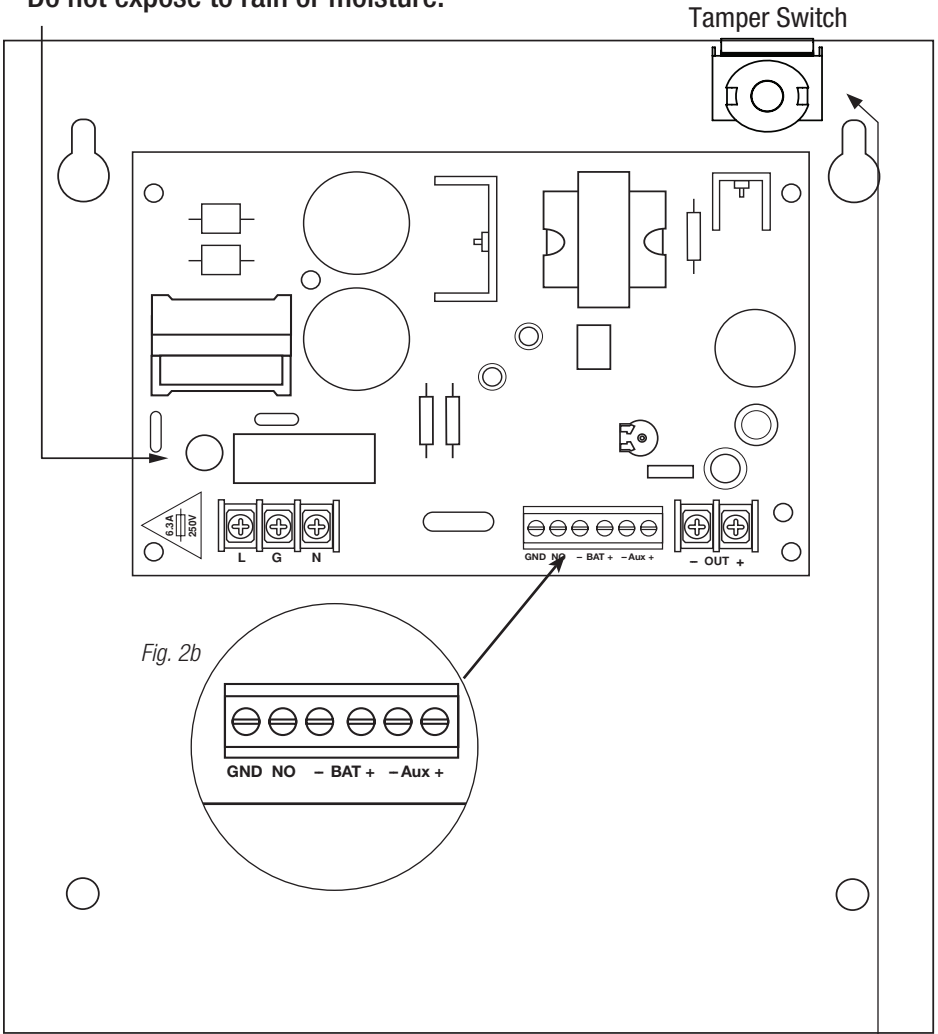

Fig. 2b
3. Measure output voltage at the terminals marked [- AUX +] and [- OUT +] before connecting devices (*Fig. 1, pg. 5 & Fig. 2b, pg. 6*). This helps avoiding potential damage.
5. Connect Normally Open [NO] Dry Contacts from actuating devices such as an Access Control Panel, REX PIR, Keypad, etc. to the terminals marked [GND, NO] (*Fig. 1, pg. 5 & Fig. 2b, pg. 6*).
6. Connect auxiliary devices to be powered (Keypads, REX motion detectors, electronic timers, external relays) to the auxiliary power output terminals marked [- AUX +] (*Fig. 1, pg. 5 & Fig. 2b, pg. 6*).
7. When using stand-by batteries, they must be lead acid or gel type. 4AH batteries will provide a 1/2 hour of backup time. Connect two (2) 12VDC batteries wired in series to the terminals marked [- BAT +].
For Access Control applications batteries are optional. When batteries are not used, a loss of AC will result in the loss of output voltage (Fig. 2b, pg. 6).